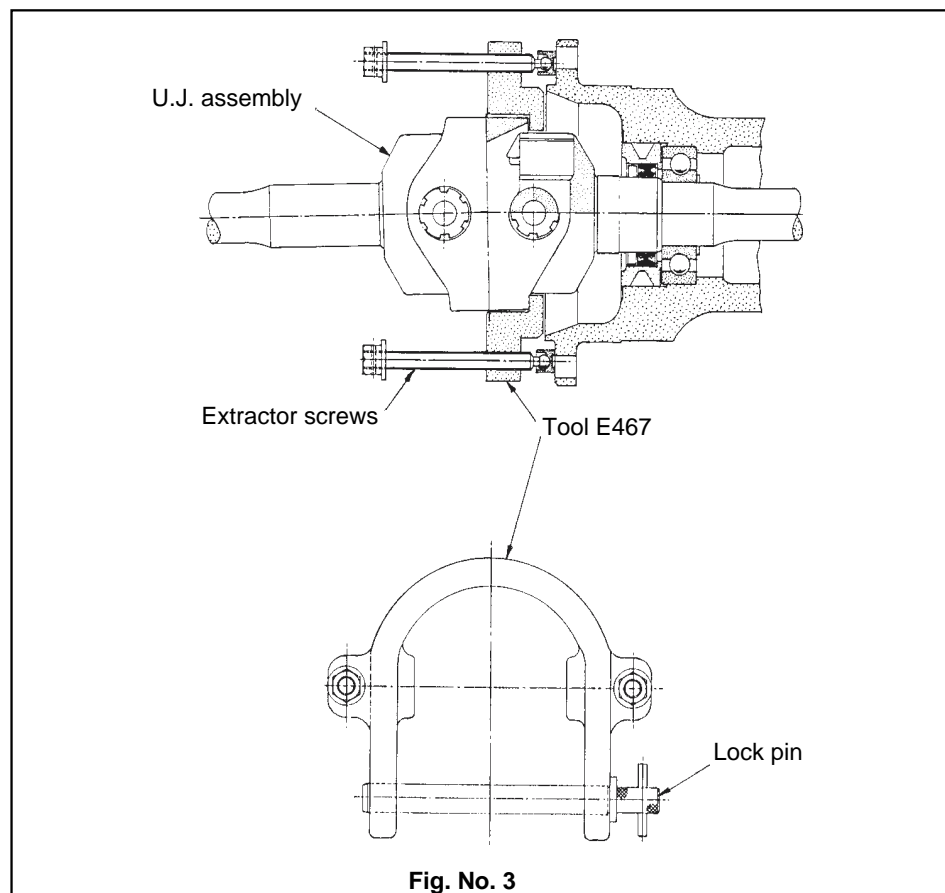

Fig. No. 3
- 2.10 Fit tool E467 into position on U.J. / axle casing assembly and tighten to pull U.J. from axle casing as shown in fig.no.3